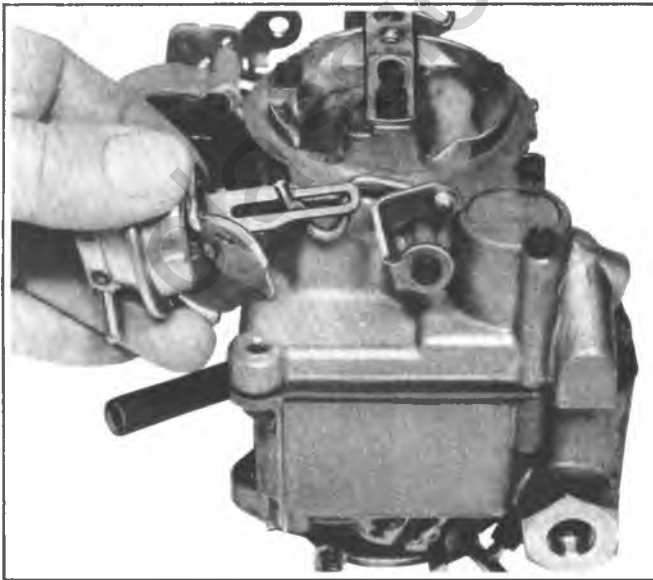

Fig. 6C1-13--Vacuum Break Diaphragm
3. Remove fast idle cam attaching screw; then remove fast idle cam (Fig. 6C1-14).
7. Remove air horn by lifting and twisting back towards choke housing so that the choke coil lever link will disengage from the choke coil lever at the choke housing, invert and place on clean bench. Air horn to float bowl gasket can remain on bowl for removal later (Fig. 6C1-15).